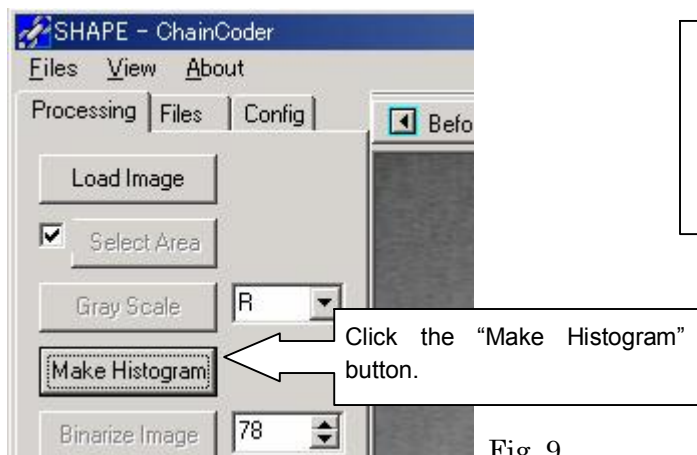
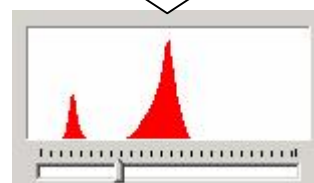
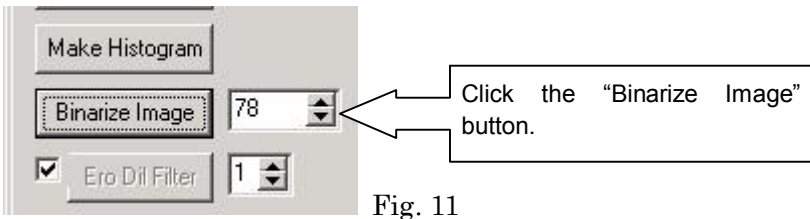

Fig. 9
Fig. 10
Fig. 11
8. Click the “Make Histogram” button (Fig. 9), and a histogram of the gray scale of the pixels will then be shown in the histogram box (Fig. 10). Through this step, an appropriate threshold value is determined and appeared in the box beside the “Binarize Image” button.
- Click the "Binarize Image" button, to convert the gray scale image to a binary image in which the objects and background are represented as 1 (white) and 0 (black), respectively (Fig. 11). If you want to adjust threshold value for the binarization, change the value in the box beside the "Binarize Image" button by clicking the up or down buttons, as appropriate (Fig. 11). The value can be changed by dragging the pointer on the ruler bar below the histogram box (Fig. 10).